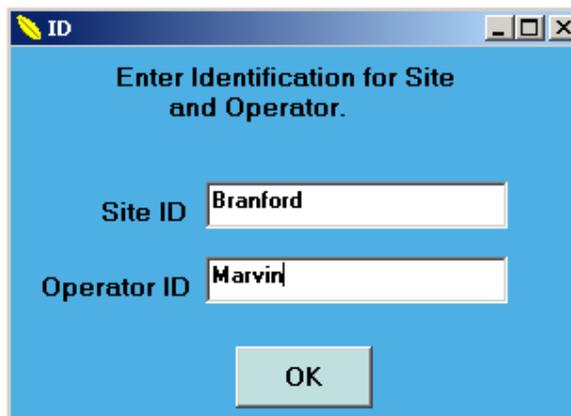

Figure 9: Identification Screen
2. Clicking OK will bring up the Identification window (Figure 9). Alter or accept the Site and Operator information and click OK. (This is required only once per session or when grain types or standards are changed). The Identification Window can also be opened manually by clicking on **Identification** to change operators, etc. If necessary, these text boxes can also be used to store notes that will be saved with the data.